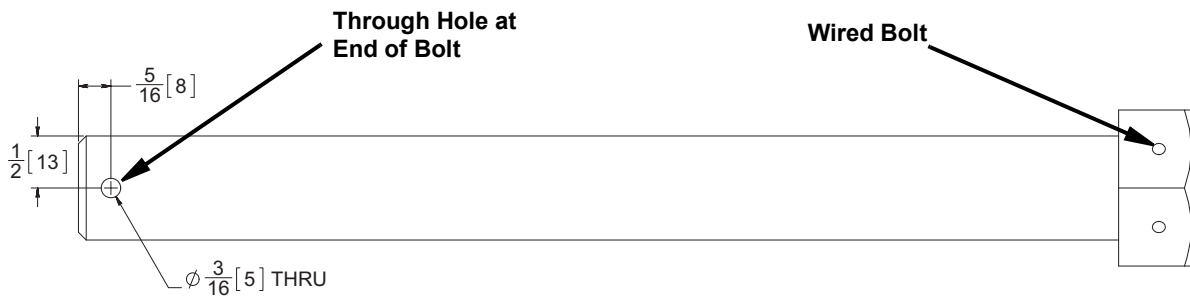

Figure 1: Wired Grade 8 Bolts with Through Hole at End
3. Drill a 3/16" diameter through hole on the end of the bolts. See Figure 1.